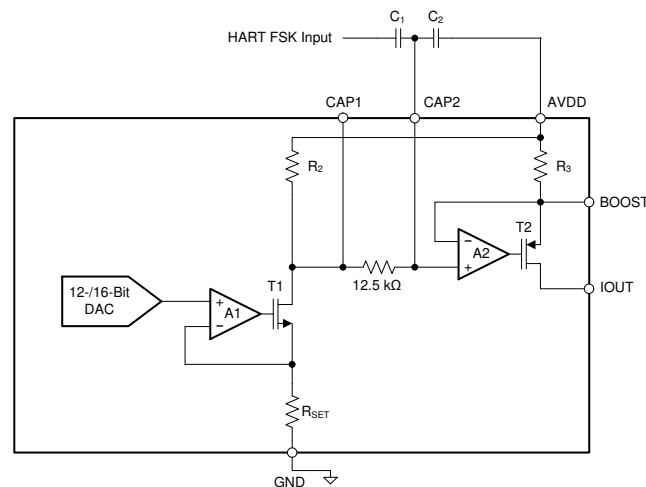

Figure 9-3. Implementing HART on IOOUT Using the CAP2 Pin
The first method of implementing HART is to couple the signal through the CAP2 pin, as conceptualized in Figure 9-3. Note that this pin is only available in the 40-pin VQFN package.
In Figure 9-3, R_3 is nominally 40 Ω , and R_2 is dependent on the current output range (set by the RANGE bits) as described below:
1. As is seen in Figure 9-3, CAP2 is directly connected to the input of the final IOUT amplifier. Any noise or unwanted ac signal routed near the CAP1 and/or CAP2 pins could capacitively couple onto internal nodes and affect IOUT. Therefore, with the QFN package, it is important to avoid routing any digital or HART signal trace over the CAP1 and CAP2 traces.